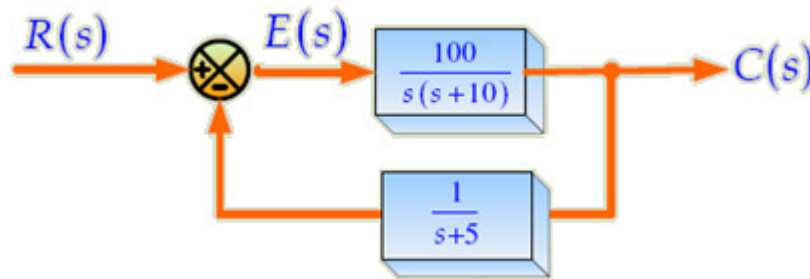

Fig. 8
13) For the system shown in Fig. 8, find